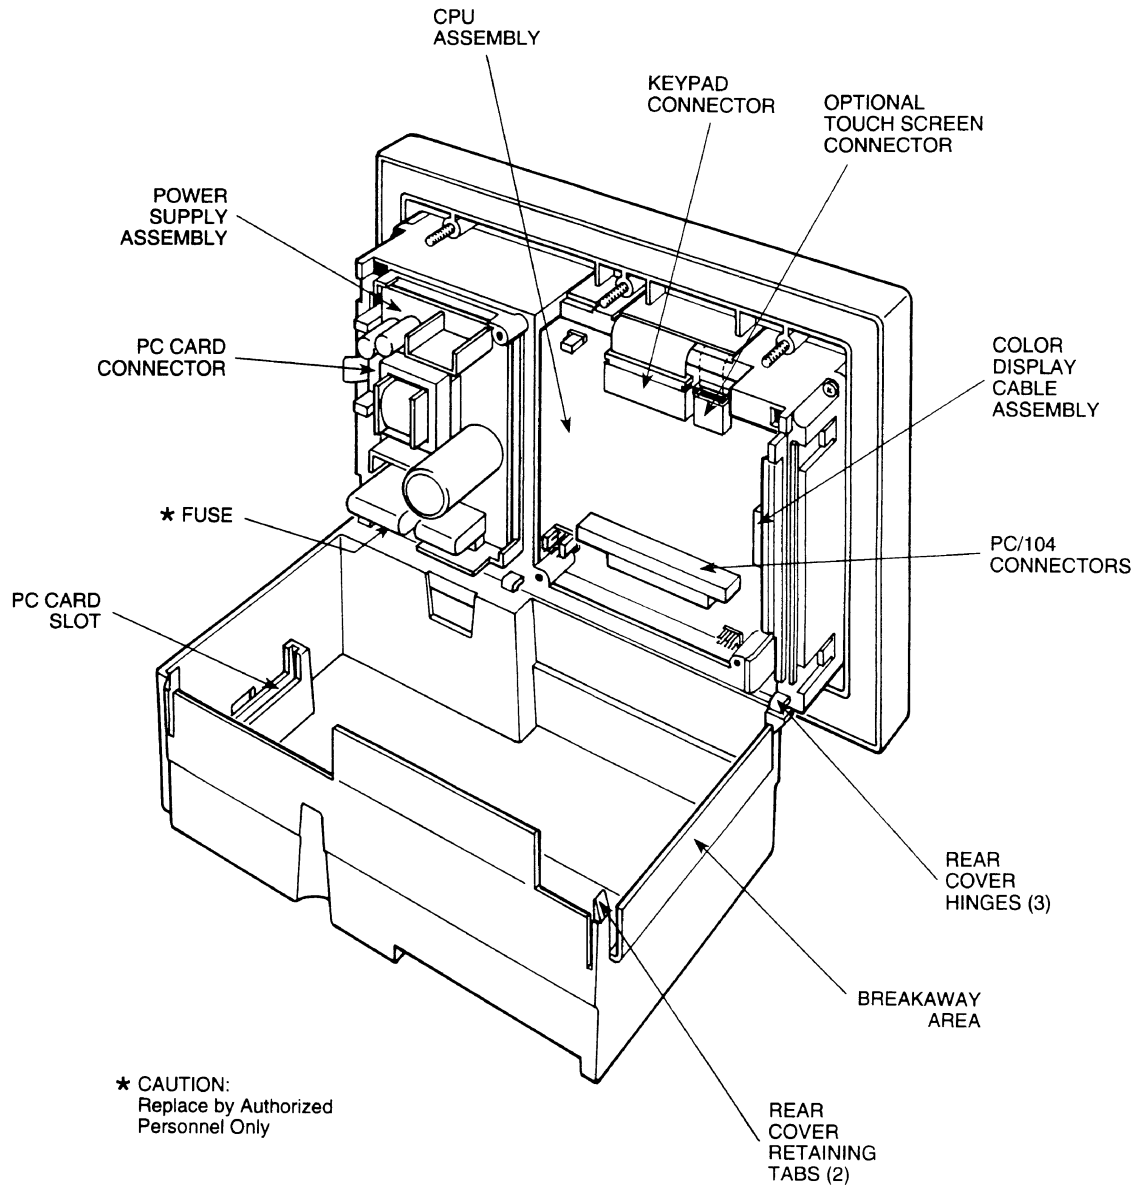

Figure 4. Internal System Components
6. The break-away area on the side of the rear cover needs to be scored and then bent inward (see Figure 4). A razor or knife cutters should be used to remove this area.